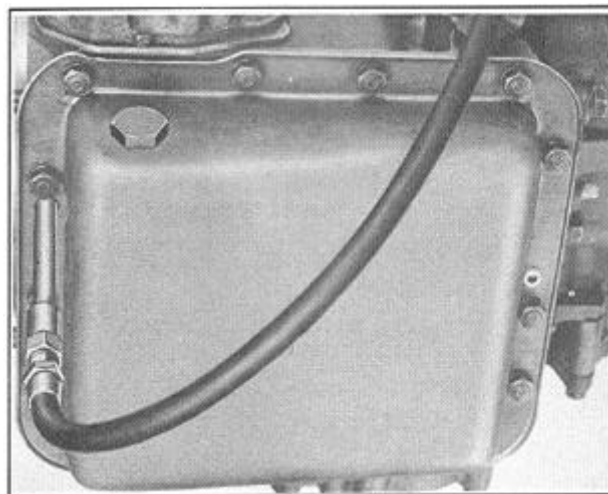

FIGURE 148
1. With the engine stopped, remove the Allen head pipe plug at the transmission oil pan front flange, Figure 148, and install the pressure gauge fitting.